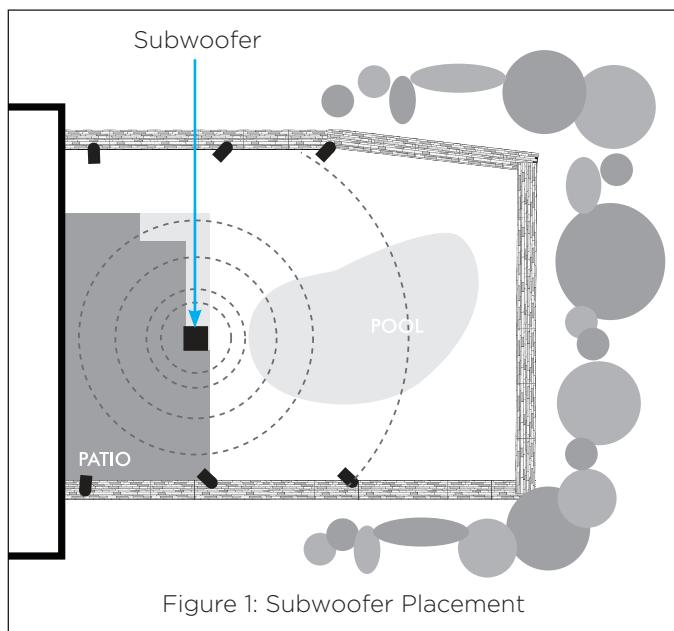

Figure 1: Subwoofer Placement
1. Select a central location for the subwoofer if using only one (see Figure 1). If using multiple subwoofers, select locations that are the same distance from the main listening area. Sonance recommends one SLS sub installed after every four to five sats in a chain.